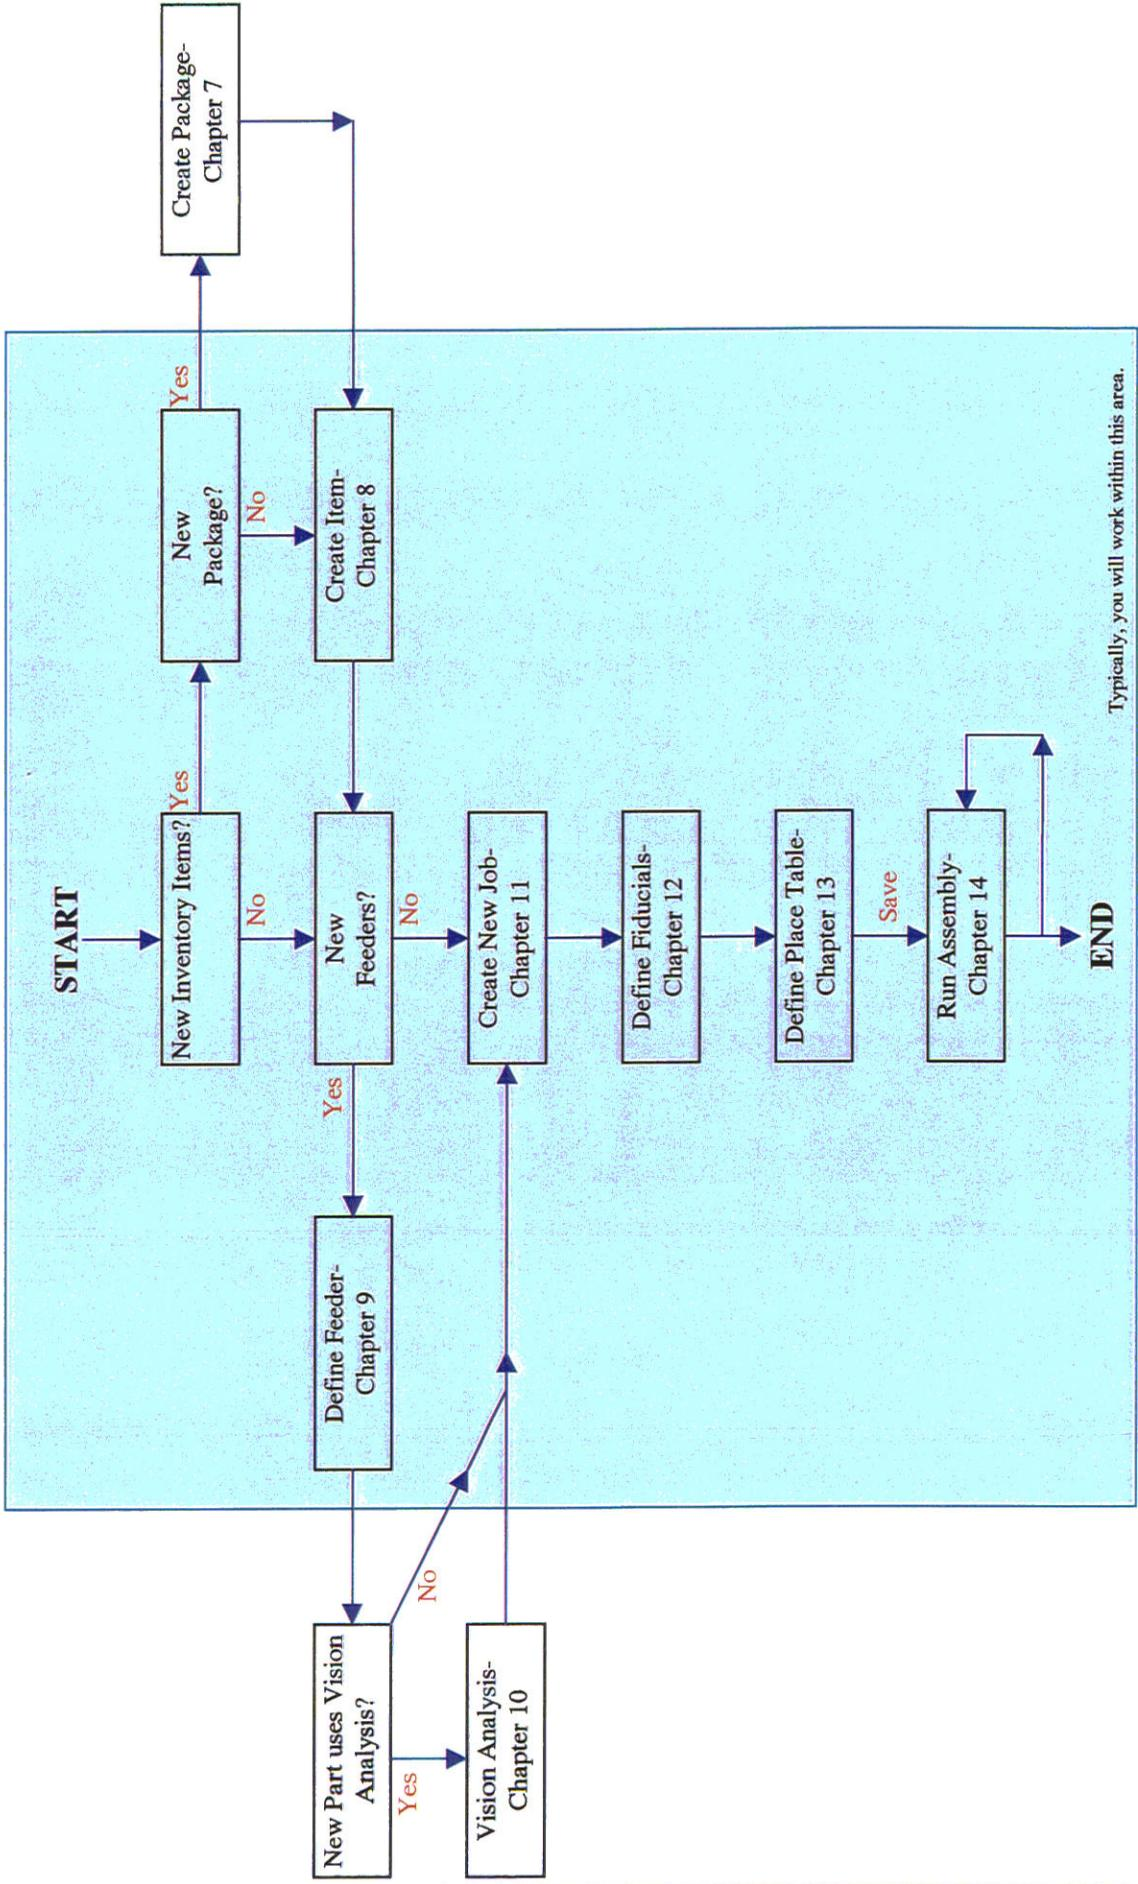

Figure 16-2
- To Assemble a New Job see the flow diagram in Figure 16-2.